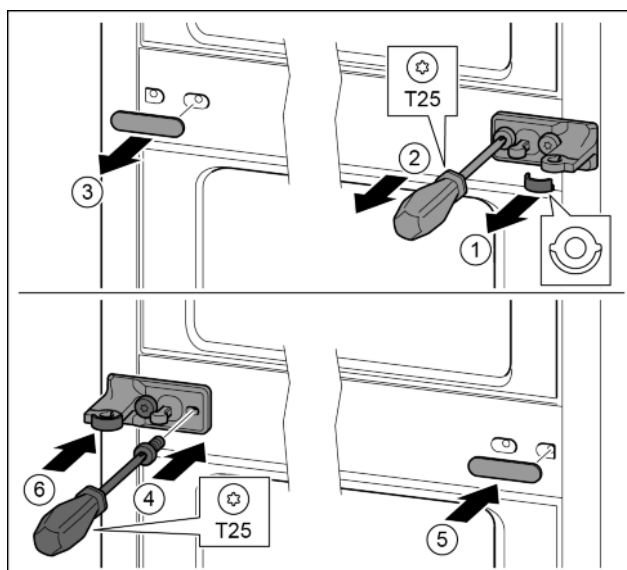

Fig. 13
- ▶ Remove the disc. Fig. 13 (1)
- ▶ Remove the screws with the T25 screwdriver. *Fig. 13 (2)*
- ▶ Remove the cover carefully. *Fig. 13 (3)*
- ▶ Screw the bearing bracket and the film rotated 180° firmly onto the other side. *Fig. 13 (4)*
- ▶ Attach the cover rotated 180° onto the other side. *Fig. 13 (5)*
- ▶ Push the disc in from the front. *Fig. 13 (6)*